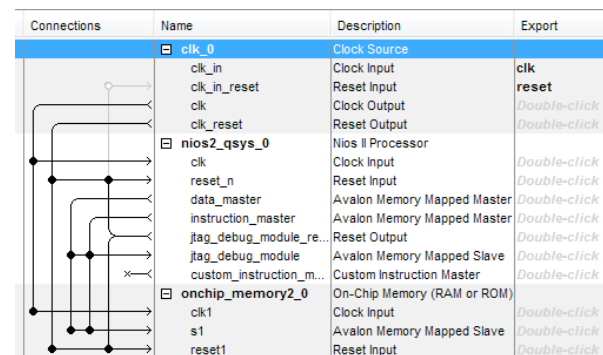
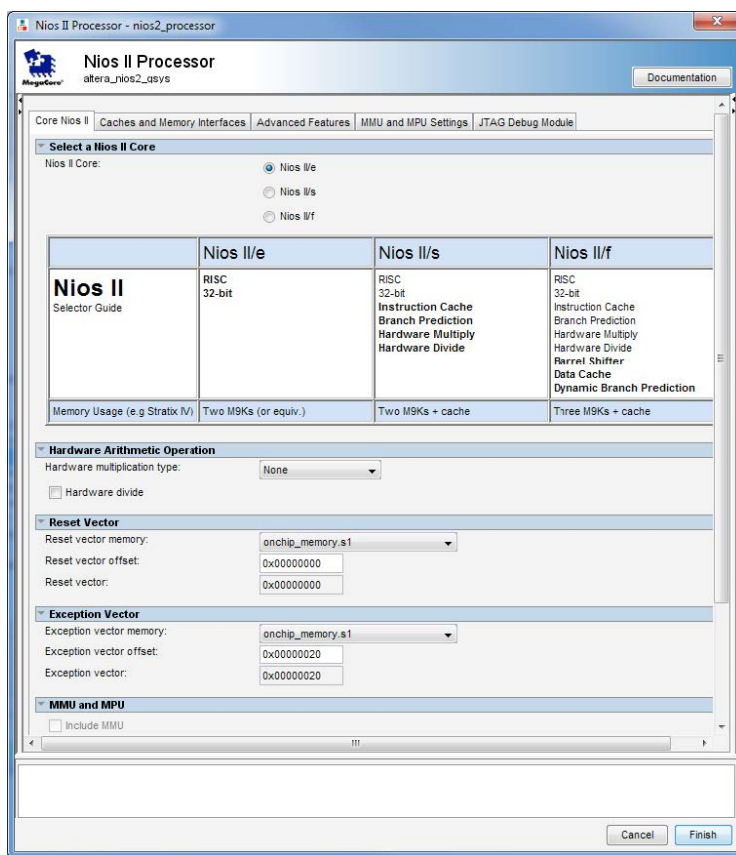

Figure 8. The connections that are now established.
Figure 10. Define the reset and exception vectors.
The resulting connections are shown in Figure 8.
- Right-click on the nios2_processor component in the window displayed in Figure 8, and then select Edit to reach the window in Figure 10
- Select 'onchip_memory2_0.s1' to be the memory device for both reset and exception vectors, as shown in Figure 10
Having specified all components needed to implement the desired system, it can now be generated. Save the specified system; you could use the name **`nios_system`** (**do not** use the same name as your Quartus project or top level verilog file). Then, select the Generation tab, which leads to the window in Figure 10. Select 'None' for the options 'Simulation > Create simulation model' and 'Simulation > Create testbench Qsys system', because in this exercise we will not deal with the simulation of hardware. Click Generate on the bottom of the window. When successfully completed, the generation process produces the message "Generate Completed".